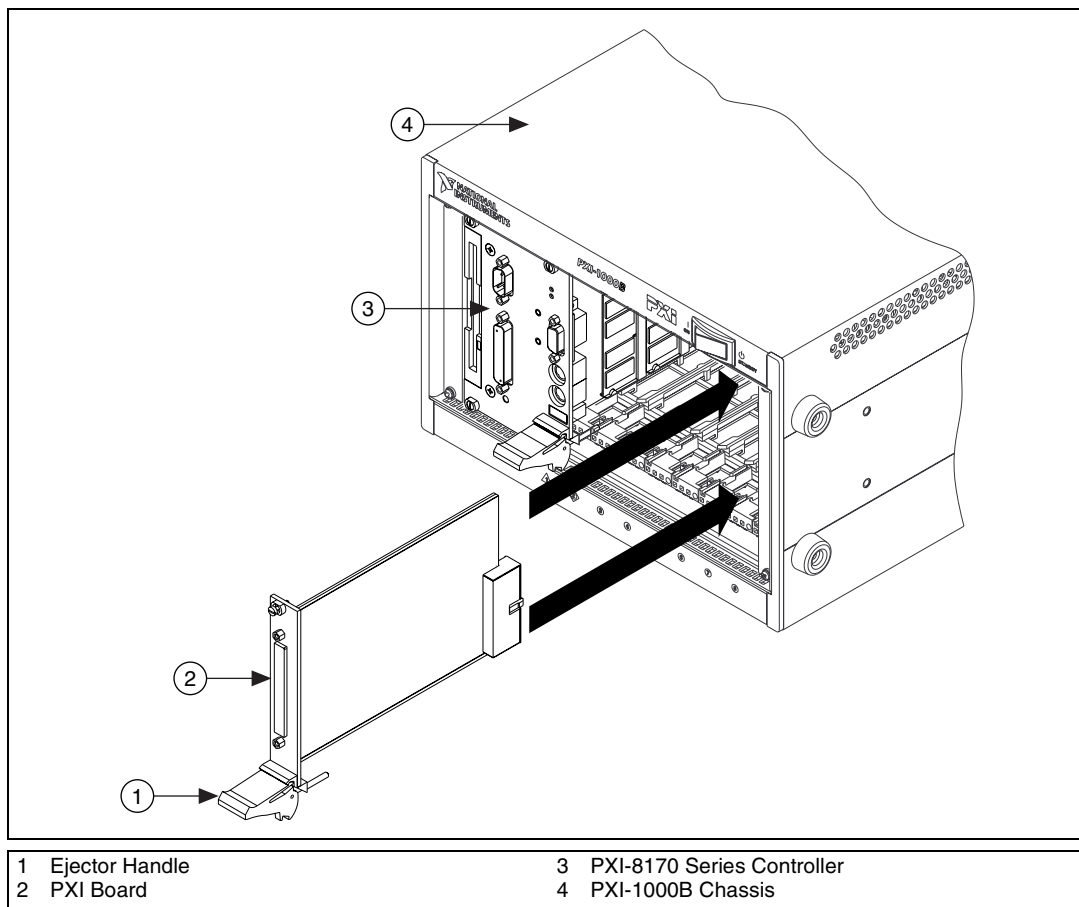

Figure 4-2. Installing the PXI-8320 in a PXI Chassis
2. Select any available PXI or CompactPCI peripheral slot. Do *not* use the first slot, which is designated for the system controller, such as the National Instruments PXI-8170 Series embedded computer. Refer to Figure 4-2.
Figure 4-2 shows how to install the PXI-8320. The National Instruments PXI-8170 Series is shown installed in the system controller slot of the PXI chassis. Place the PXI-8320 and any other PXI boards in any other slot.